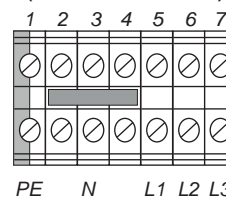

Figure 4-6 AC Input Terminal Block (3-phase)
- 3-phase 208/230/400VAC (Figure 4-6).